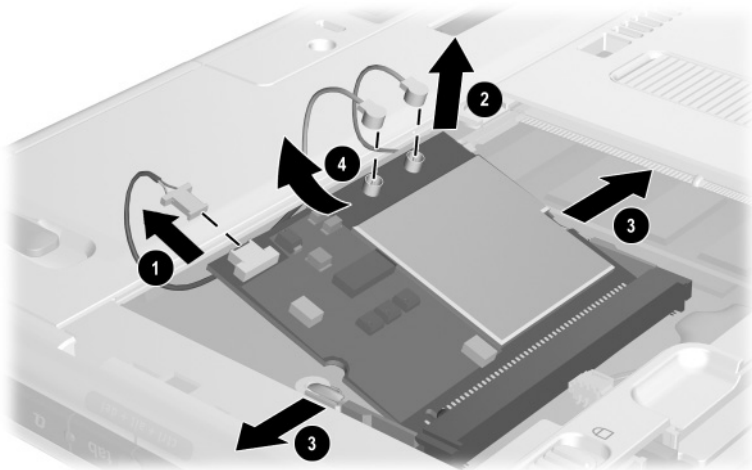

Figure 5-4. Removing the Mini PCI Communications Board
- e. Disconnect the modem cable ❶ and the two antenna cables ❷ from the mini PCI communications board (Figure 5-4).
- f. Spread the retaining tabs ❸ securing the mini PCI communications board to the system board.
- h. Pull the mini PCI communications board away from the connector at a 45-degree angle ❹.